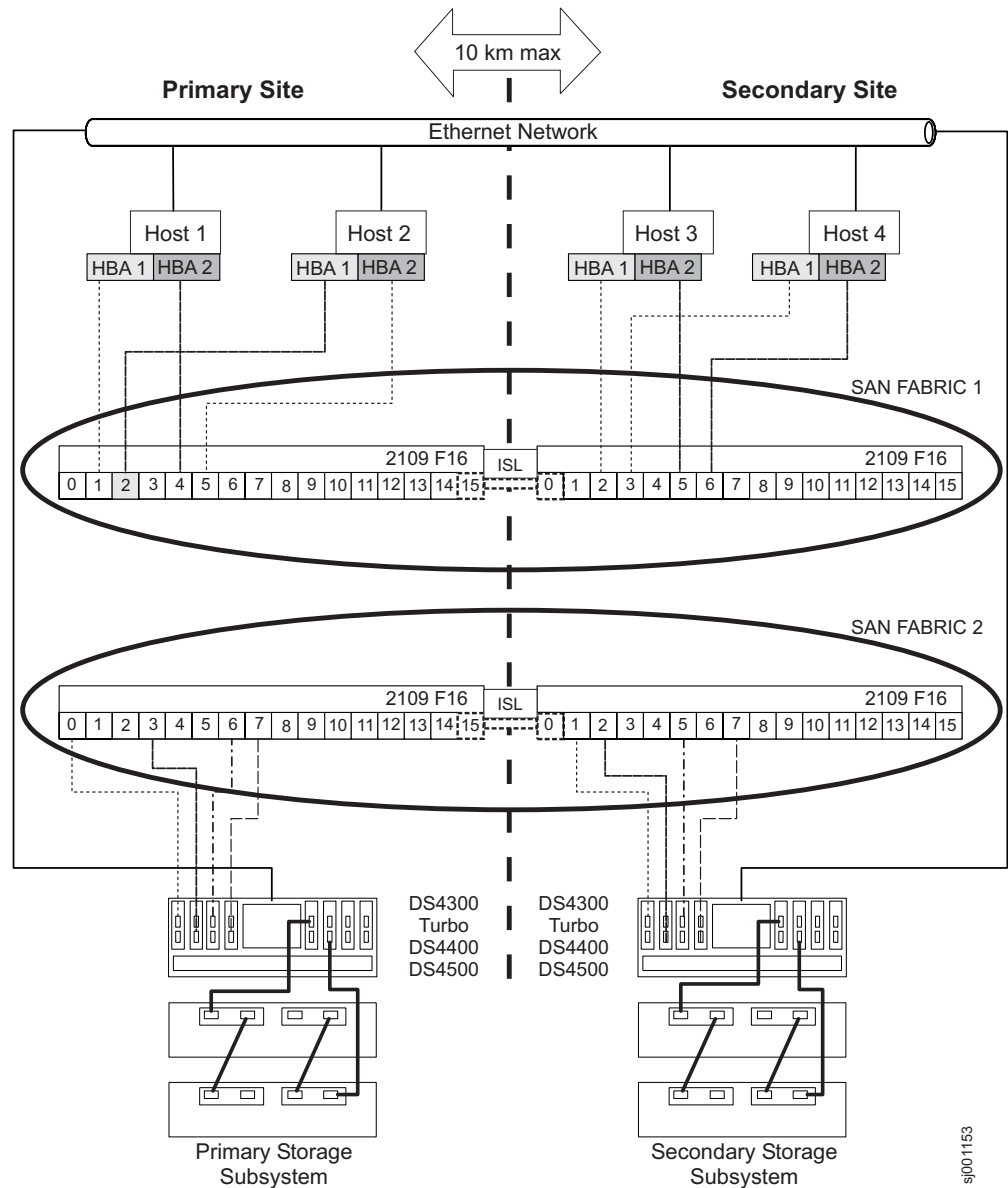

Figure 39. Highest Availability Campus configuration
Figure 39 on page 115 shows the Highest Availability Campus configuration after installation is complete.
Important: The fibre-channel switches in Figure 39 on page 115 contain 16 ports each, which leaves many unused ports per switch. If you are performing switch zoning using the fibre-channel host port number, instead of the WWNN of the SAN fabric logged-in ports, do not include fibre-channel switch ports with no fibre-channel connections in the zone definition. If you include these unused ports in your zones, unauthorized access to the SAN might result.
Figure 39 on page 115 shows how the four fibre-channel switches are cabled for this Highest Availability Campus configuration. The zones are configured on the switch to allow one port per zone for a storage subsystem connection, and one HBA port per zone for each host. There are four zones in the following configuration example.
- Refer to Figure 39 on page 115 as you complete the steps in this procedure.